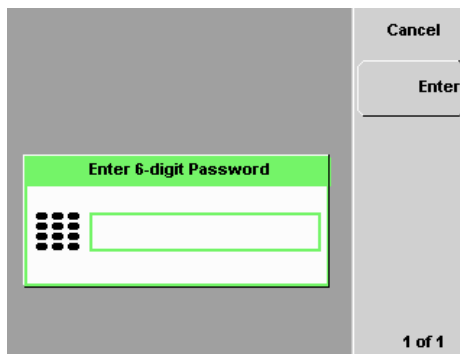

Figure 2-52 Enter password to restore display
- After screen is blanked, pressing of any keys on the front panel will prompt you to enter password to restore the display (see Figure 2-52). You are allowed up to three attempts of password entry.